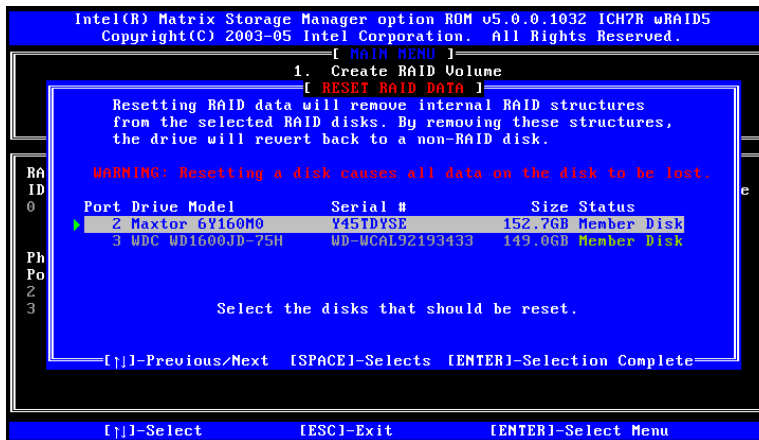

Figure G-13: Select Disk to Reset
Step 2: Select Disks to Reset. Use the arrow keys to scroll through the disk drives and press **SPACE** to select which drives are to be reset as non-RAID. After all the disks to be reset have been chosen, press **ENTER**. See Figure G-13.